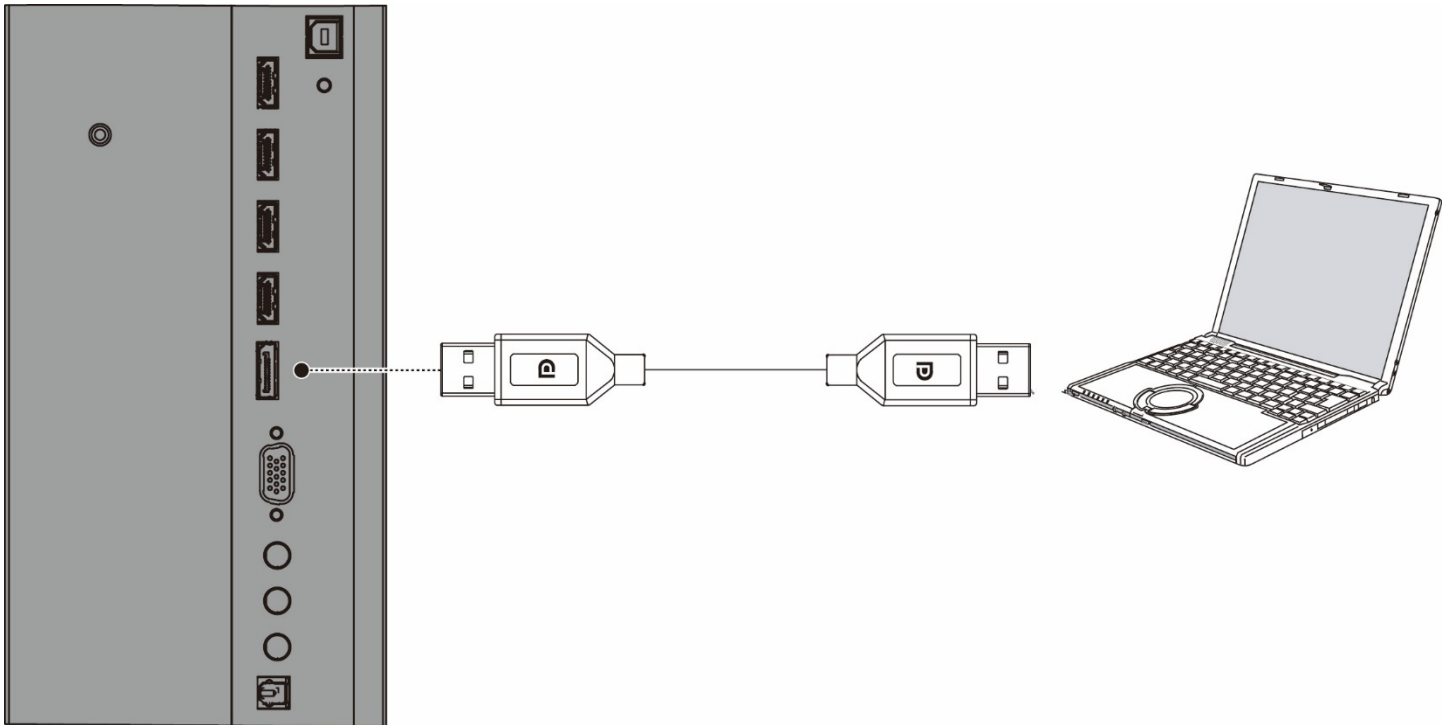
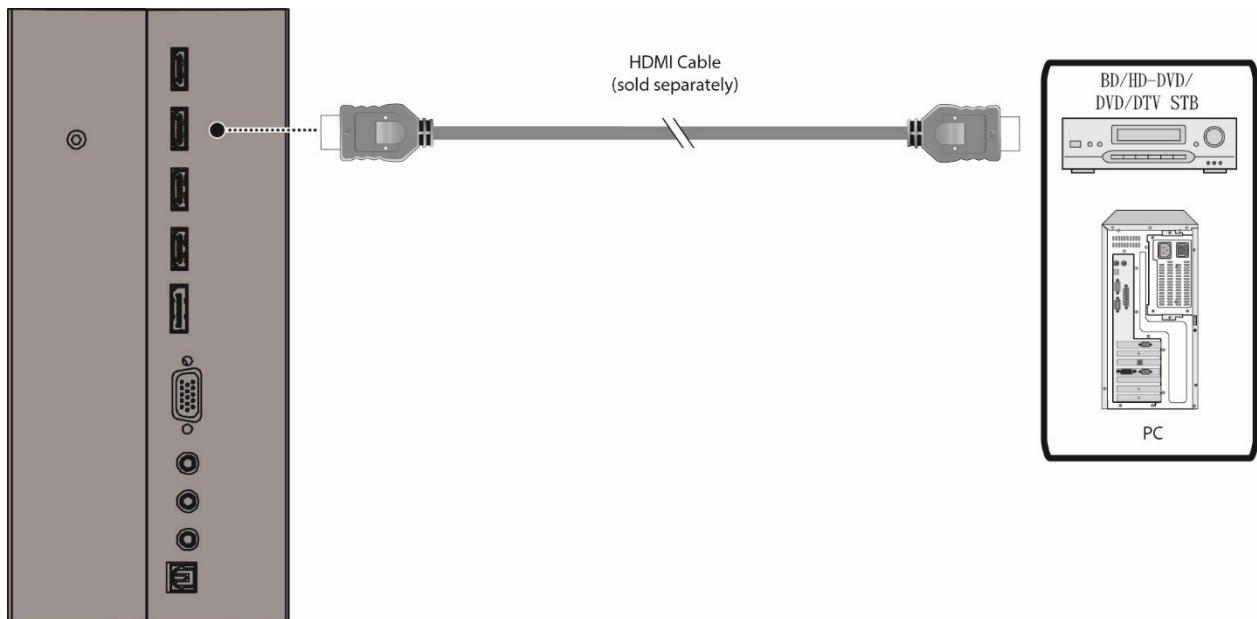
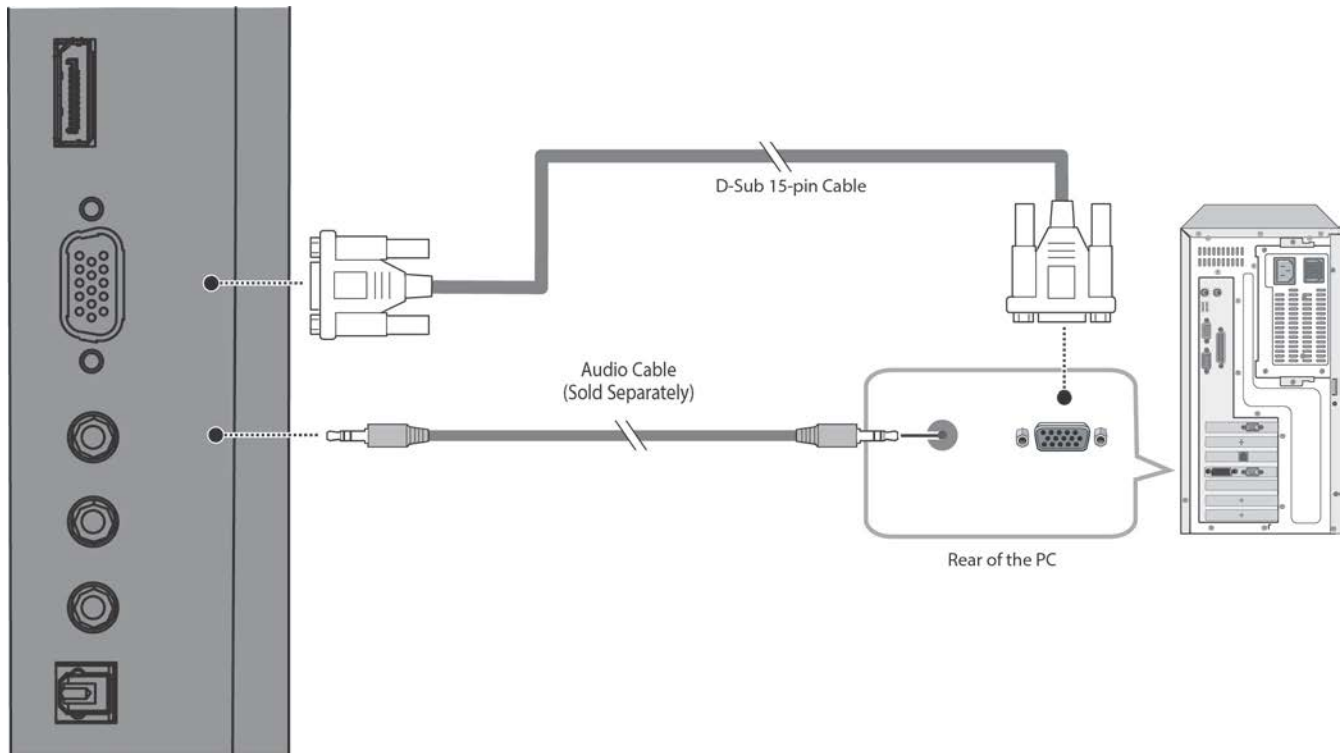

Figure 3-4. DisplayPort Source Connection
Figure 3-5. HDMI Source Connections
Figure 3-6. VGA Source Connections
DisplayPort Source Connection: See Figure 3-4.
HDMI Source Connections: See Figure 3-5.
Connect a personal computer or other RGB source to the VGA input as shown in Figure 3-6.
- The video output from the computer is connected to a video input on the display. See Figure 3-4, Figure 3-5 or Figure 3-6.